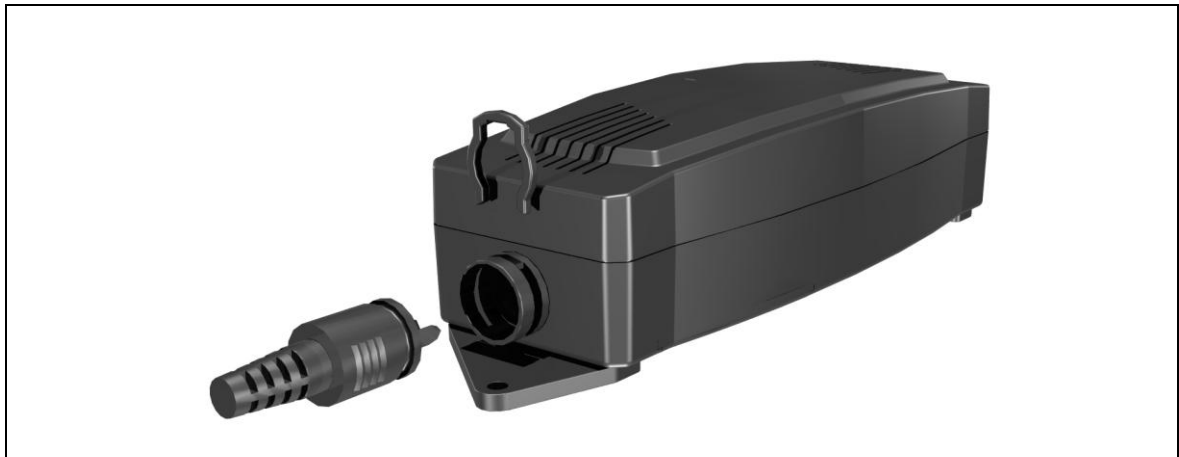

Figure 13 Opening the shield cover
- 2 Open the shield cover (refer to Figure 13).